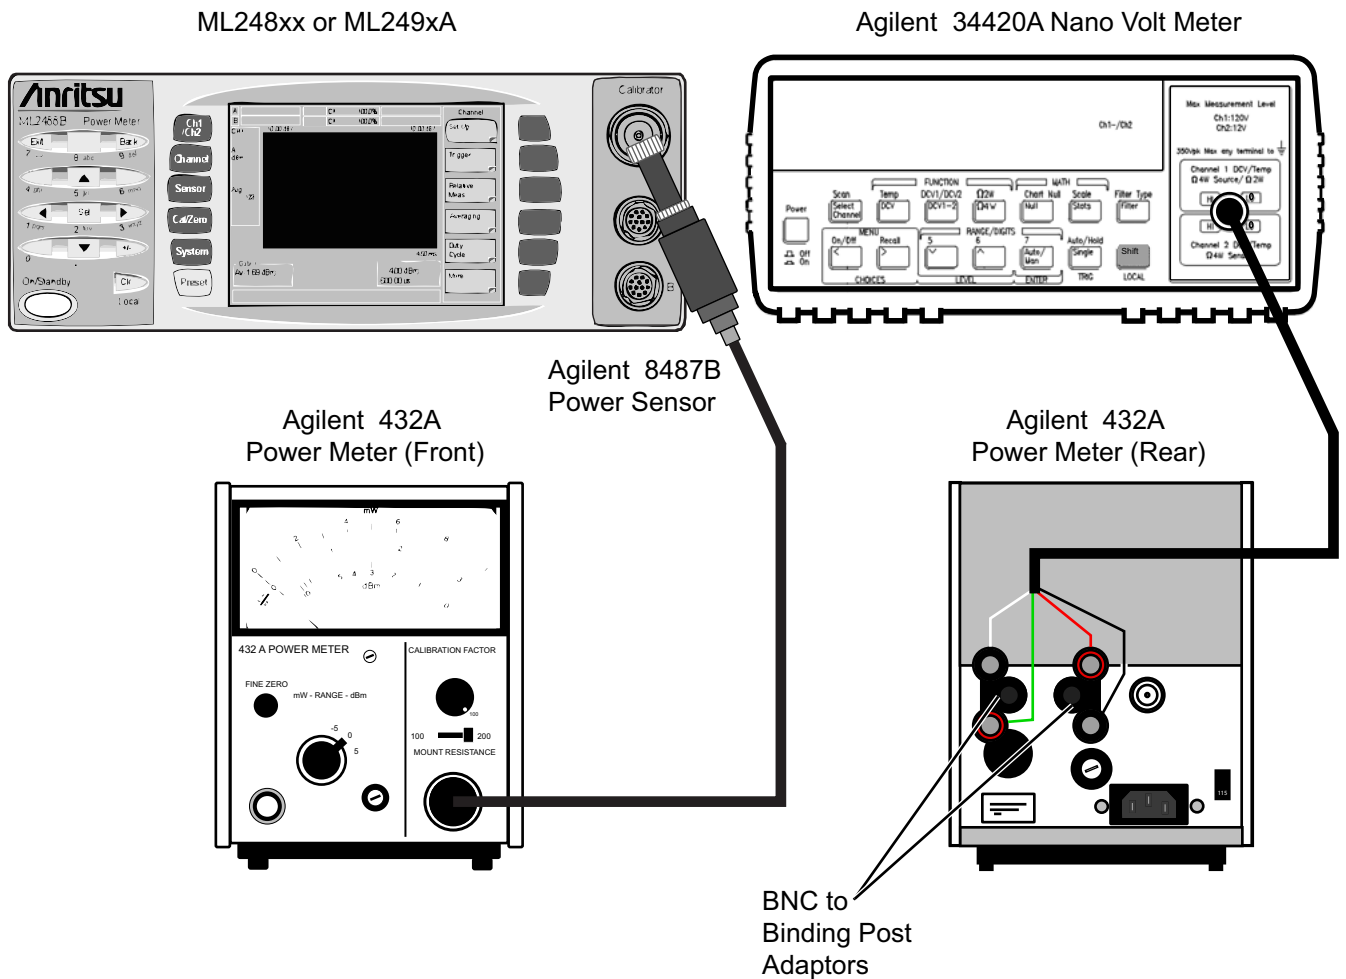

Figure 3-3. Equipment Connection for Calibrator Power Level Verification
1. Connect the Agilent 34420A to the Agilent 432A using the 4-wire cable provided with the Agilent 34420A. See Figure 3-3 for connection details.